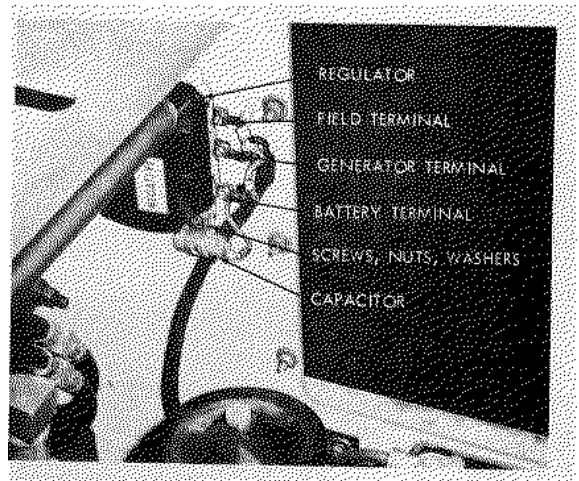

Figure 5-10. Regulator, Installed
(1) Disconnect and tag leads at BAT, GEN and F terminals of regulator (fig. 5-10).